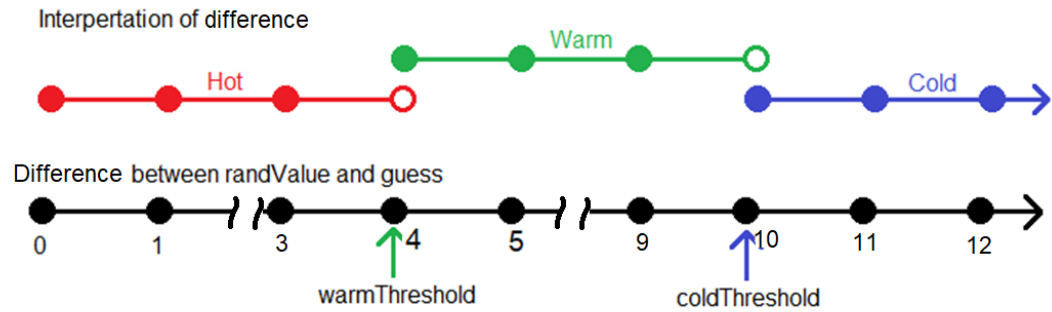

Figure 5.2: The interpretation of the quality of a guess in terms of thresholds.
*cret number* is computed. This difference, called *difference* is compared against *warmThreshold* and *coldThreshold* as shown in Figure 5.2. This figure can be interpreted as follows:
Now that we have *difference* computed correctly, let's see how it's used to inform the user of the quality of their guess. The *difference* is compared to the *warmThreshold* and *coldThreshold* using a pair of comparators. Through some logic that you will design you will create three signals *hot*, *warm*, *cold* which are based on the relationship you examined in Figure 5.2.